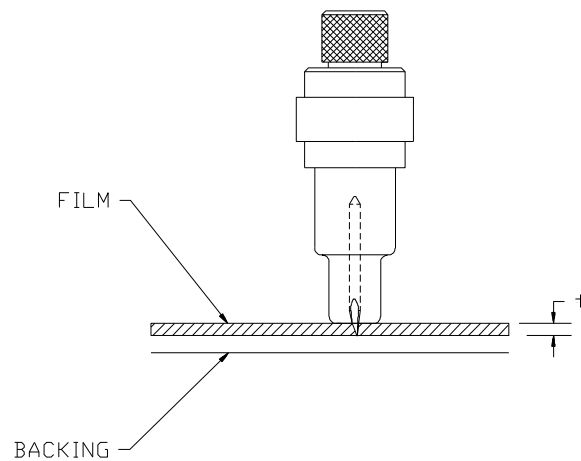

FIGURE 1-5
3. Extend the tip of the blade by the distance required for the desired cutting media (**t**), as shown in Figure 1-5. The blade should only extend beyond the knife holder sufficiently far to completely cut through the film layer, yet avoid penetrating through the backing, which would risk cutting into and damaging the cutting strip.